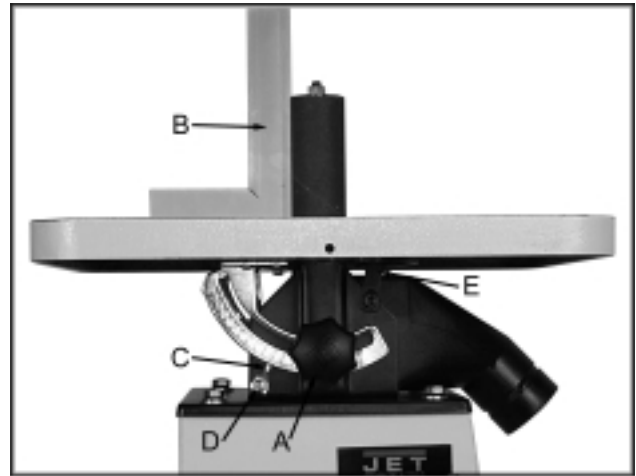

Fig. 3
1. Loosen both knobs, (A, Fig. 3) and place the table in the 0° position.
2. Place a square (B, Fig. 3) on the table. Rest the long section of the square against the sanding drum. The square should be flat against the table and the sanding drum.
4. Make sure the pointer (C, Fig. 3) reads 0°. If the pointer needs adjusted loosen the screw (D, Fig. 3), and adjust to the correct position.
5. Adjust the 90° stop (E, Fig. 3) with a hex wrench so that it rests against the bottom side of the table.